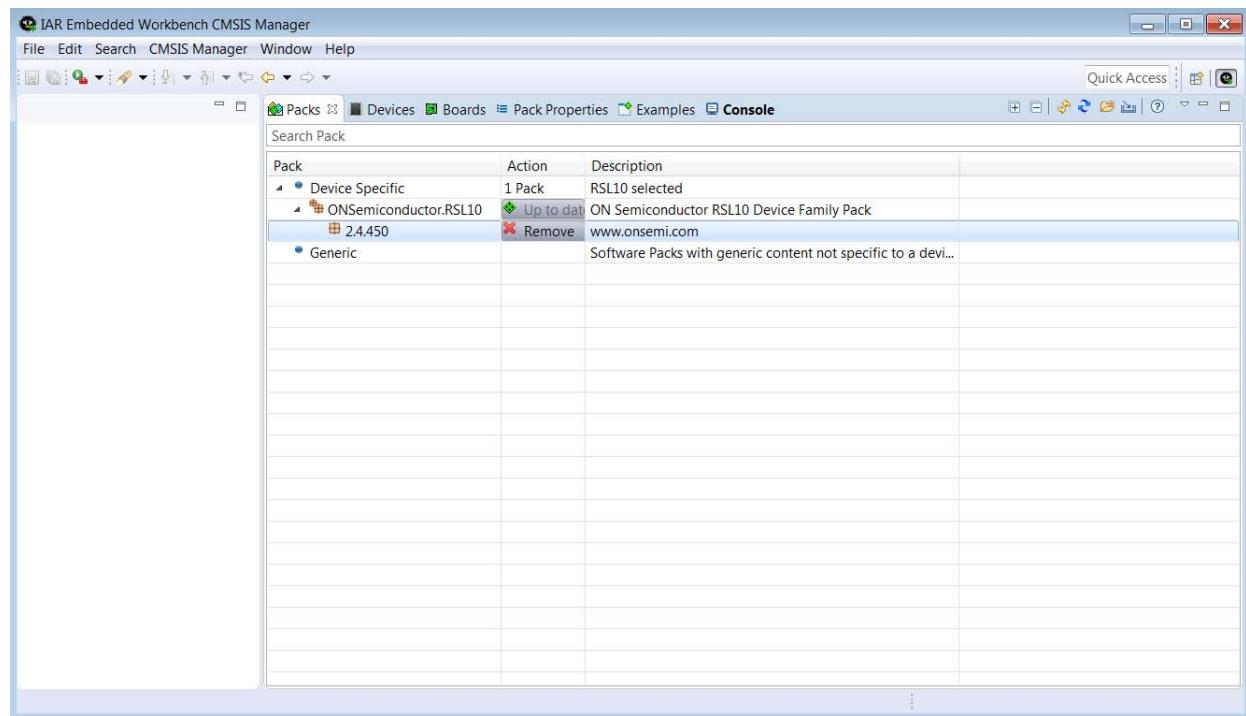

Figure 30. The IAR Embedded Workbench CMSIS Manager after RSL10 CMSIS-Pack is Installed
6. In the **Devices** tab, expand **All Devices > ONSemiconductor > RSL10 Series**, and select **RSL10** from the list. The RSL10 CMSIS-Pack now appears in the list of installed packs in the **Packs** tab. Expanding **ONSemiconductor.RSL10** makes the **Pack Properties** tab display the details of the RSL10 CMSIS-Pack. Figure 30 on page 26 illustrates what the Pack Manager perspective looks like after installation.